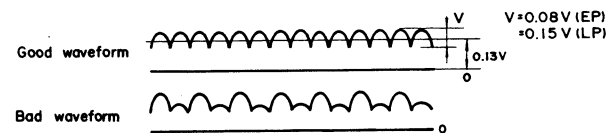

Figure 7-2
#### 1) HALL DEVICE (Refer to Figures 7-2 and 8-2)
2. Adjust the semi-variable resistor (VR1104) so that good waveform indicated in Figure 7-2.